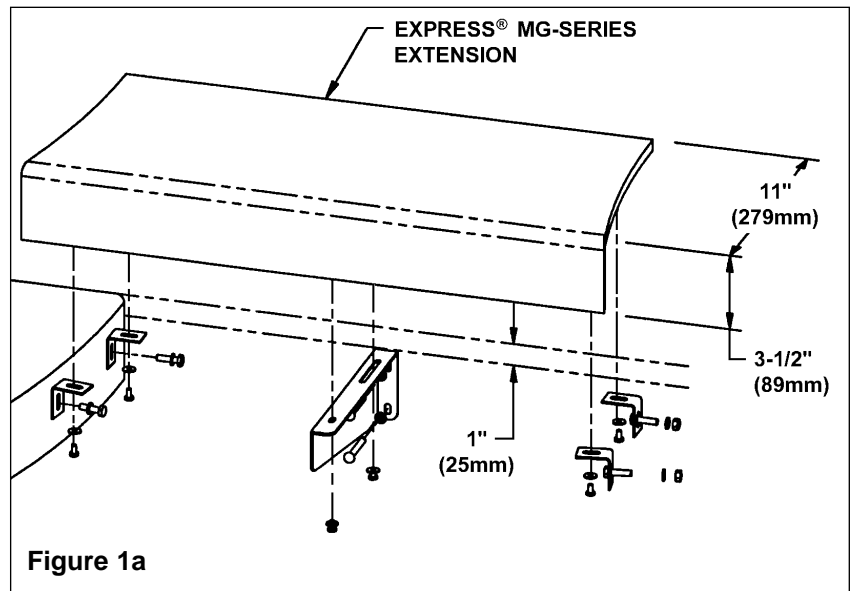

Figure 1a
1. Mark a level line flush with the top of the Express® MG-Series bowl (see Figure 1a).
3. Measure the opening between the Express® Lavatory System MG-Series and the alcove. If the Extension does not fit properly within the opening, trim the flat (wall) end of Extension to fit using a tablesaw with a carbide tipped blade to trim the Extension) (see Figures 1a and 1b).
4. Attach the support brackets to the Extension (see Figure 1a).
7. Using the hardware supplied, attach the Extension to the wall or Express® MG-Series bowl (see Figures 1a, 1b and 1c).